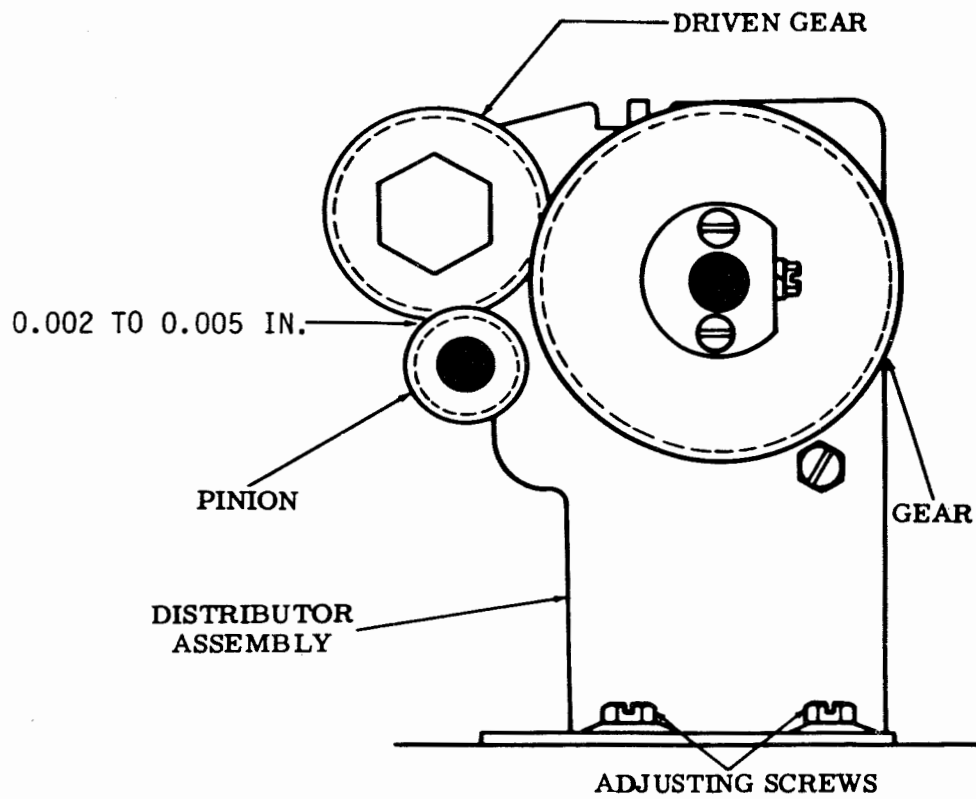

Figure 6-160. Distributor Gear
(5) Distributor Gear. Adjust distributor gear as follows:
- (a) Refer to figure 6-160.